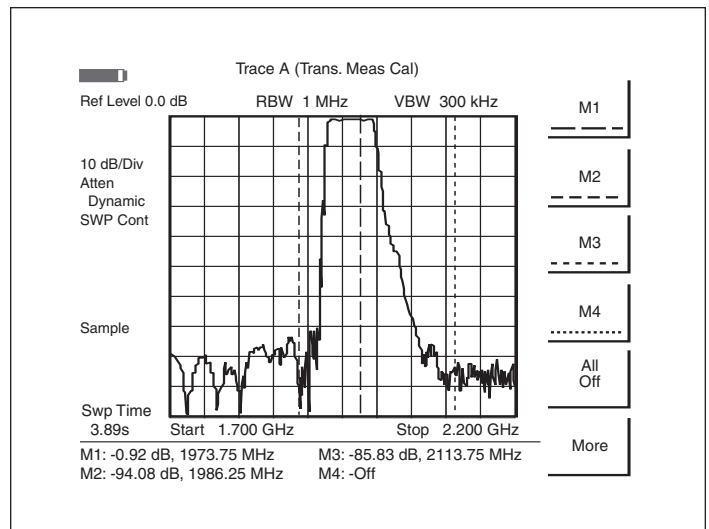

Figure 9. Transmission measurement results for a filter.
- Measure the band pass characteristics of the filter by measuring the frequency response of the filter’s output power (see Figure 9).